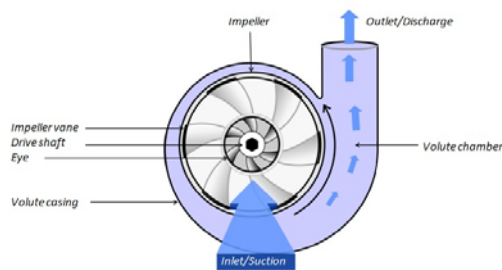

Figure 1: Centrifugal Pump
What are centrifugal and positive displacement pumps and how are they different? There are various designs for pumps used in the engineering industry today, but these types of pumps can usually be classified into centrifugal and positive displacement pumps. Centrifugal pumps operate using a spinning impeller which moves liquid into the pump and then discharges that fluid out the other end of the pump as shown in **Figure 1**. Centrifugal pumps are preferably used in situations where the fluids being transferred are of low viscosity and where high flow rates are required. Ideally, centrifugal pumps should also be used in settings where there will be very little changes in the inlet source pressure as the flow rate of a centrifugal pump will deviate with increasing or decreasing pressure.
3. Figure 1: Useful information on centrifugal pumps \(michael-smith-engineers.co.uk\)